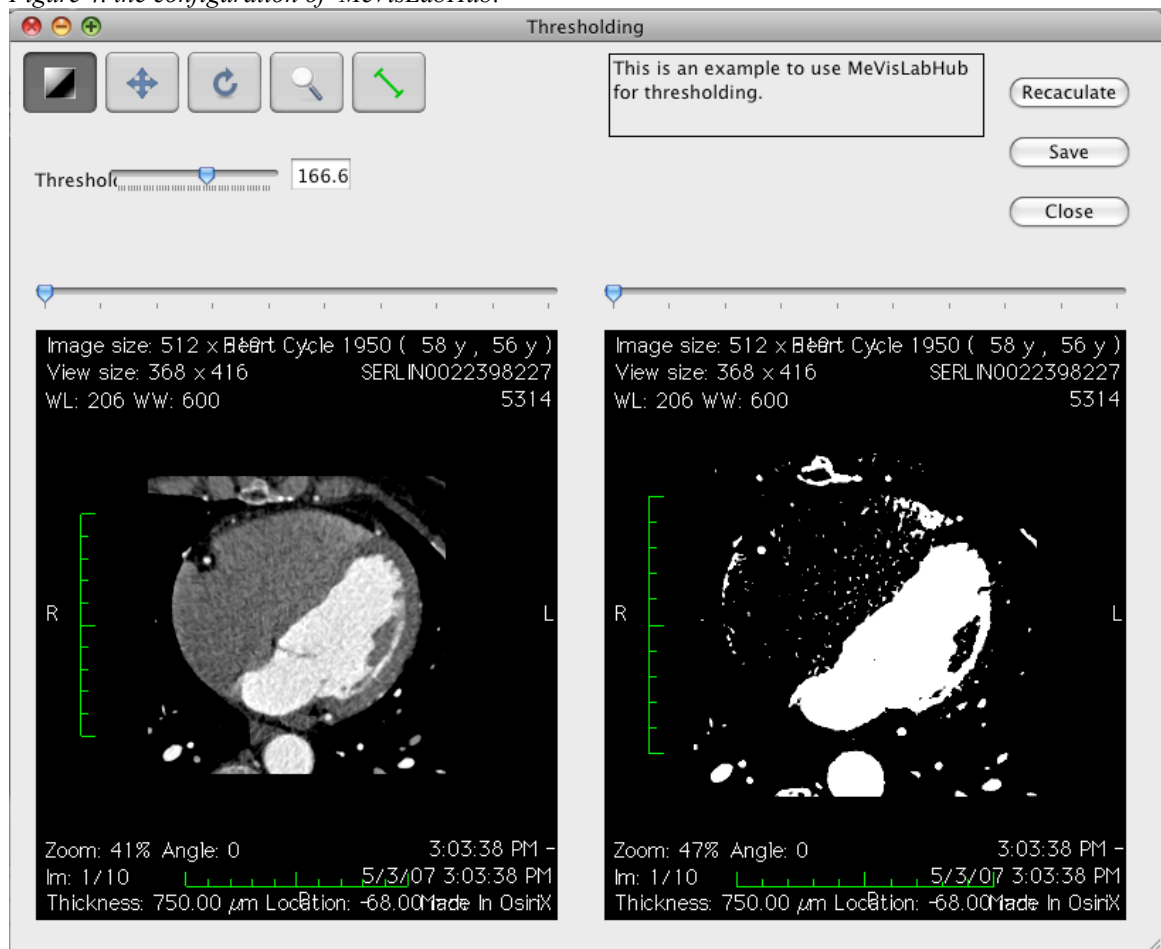

Figure 5 The user interface of "thresholding".
- d. save the configuration and restart OsiriX. A new menu item “Thresholding” will show up in the menu list. Run the function a new window will open as in Figure 5